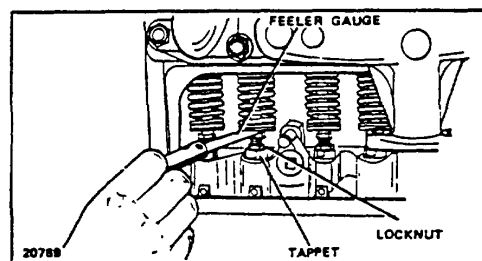

Figure 2-2. Checking Valve Tappet Clearance
5. Use two thin wrenches when adjusting valve clearance. Use the lower wrench to hold the tappet and the upper wrench to raise or lower the tappet adjusting screw. When the valve lash is properly adjusted, the appropriate feeler gauge should pass between the tappet and its corresponding valve stem with a slight drag (Figures 2-2 and 2-3).